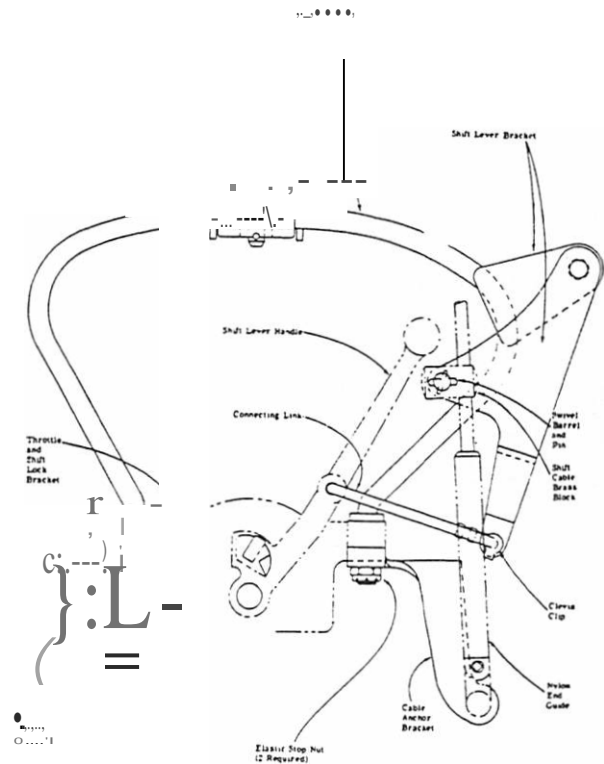

Figure 9. Inside Steering Bar (Mark 25)
1. Inside steering bar (Figure 9) fits into holes of steering bracket on Mark 25-20.
1. Mount shift bracket pivot lever of remote control in inside steering bar (right side). (Figure 9) Assembly has 2 threaded ends which fit into holes on both sides of throttle and shift lock bracket on motor.
2. Attach inside steering bar assembly to motor bracket. (Figure 9)
1. Follow exploded view of Figure 9.
3. Remove parts as shown in Figure 9.
7. After gear rack cables and control handles are assembled, close control box by bringing 2 halves together and tightening with screws which were removed. (Figure 9)